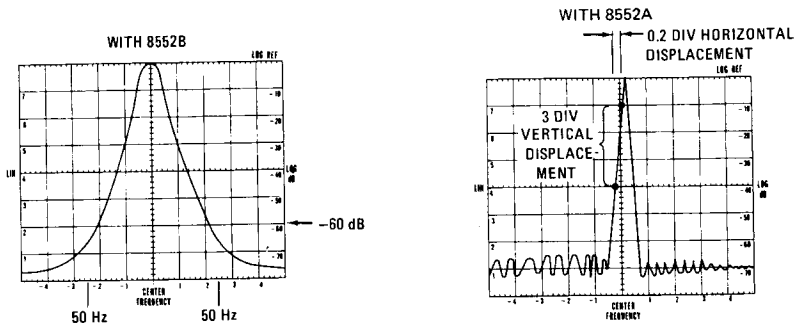

Figure 4-10. Residual FM Display
- 5. All sidebands 2.5 divisions (50 Hz) from CENTER FREQUENCY graticule should be below -60 dB graticule line (see Figure 4-10):
- 7. Using LINEAR SENSITIVITY vernier, set signal peak to top horizontal graticule line (see Figure 4-10). Then FINE TUNE so that upward slope of signal intersects CENTER FREQUENCY graticule line 1 division from the top. Note where upward slope of signal intersects middle (4) horizontal graticule line.